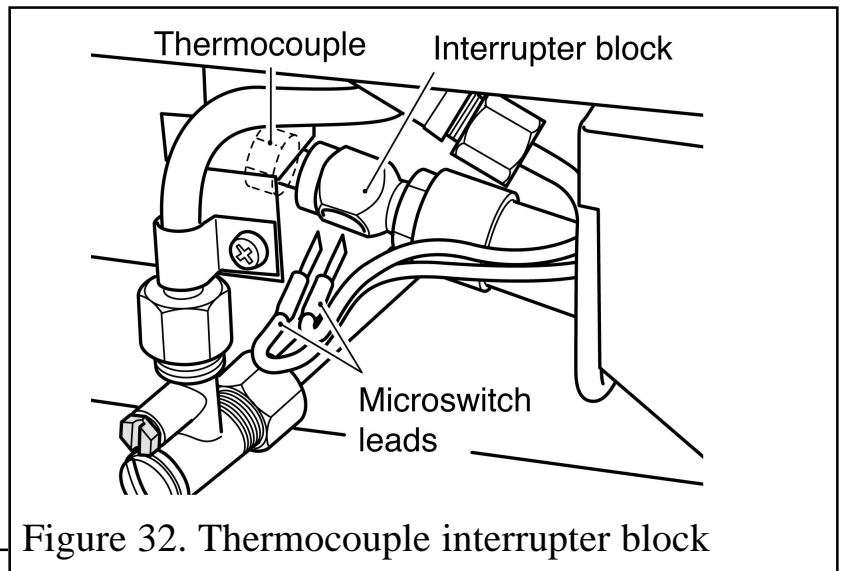

Figure 32. Thermocouple interrupter block
3. Loosen the thermocouple nut to free the microswitch leads and pull the leads clear of the thermocouple interrupter block (See figure 32).
4. **Make sure that the control linking bar has been detached (See point 2).** Carefully lift the fascia upward to clear the upper retaining brackets on the convection box (See figure 32). Pull the fascia clear and place carefully aside.